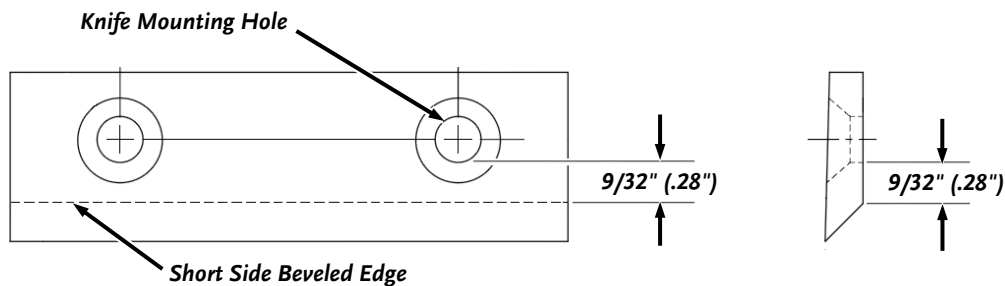

Figure 28: New Knife
- A new Chipper Knife has a $5/16$ " measurement between the short side bevel edge and the Knife mounting holes (**Figure 28**).